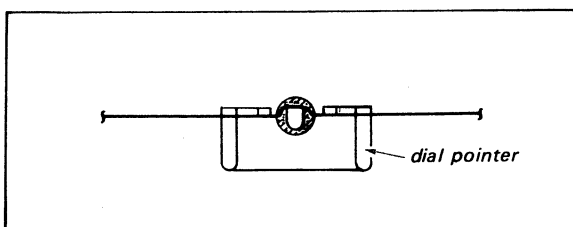
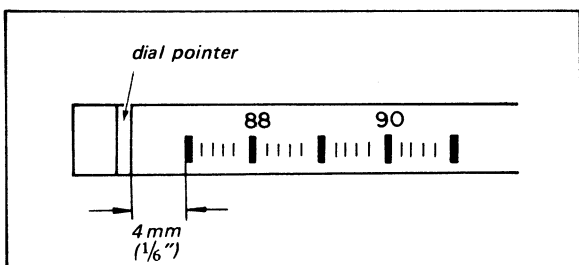

Fig. 2-12 Dial pointer installation
Fig. 2-13 Mechanical dial calibration
1. Put the dial pointer on the cord as shown in Fig. 2-12 and move it to a position where the pointer comes to about 4 mm ( $\frac{1}{8}$ " ) left from the lowest dial mark (87 MHz) as shown in Fig. 2-13, when the tuning-capacitor drive drum is rotated fully clockwise.